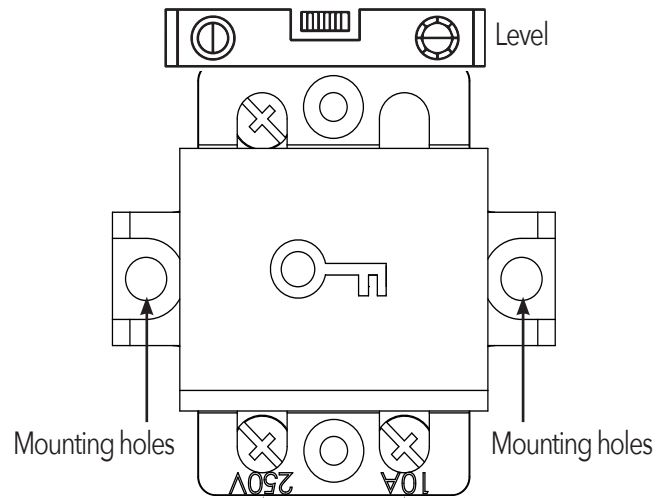

Figure 7: Mounting the switch onto a wall
2. Place the contact portion of the switch where you want it mounted. Use a level on top to ensure it is aligned straight and true (See Figure 7).